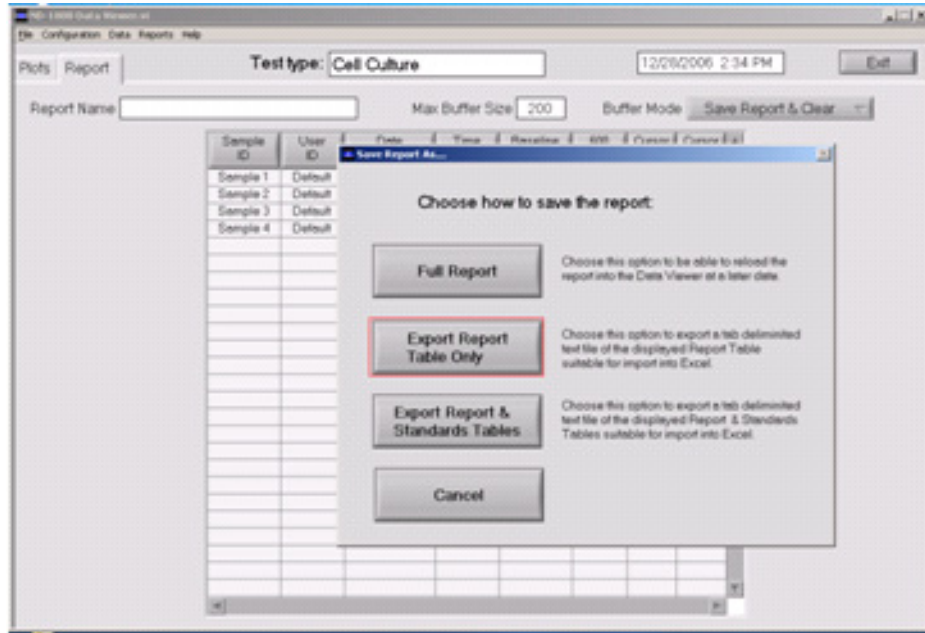

Figure 43 Save Report Software Dialog Box on the NanoDrop® ND-1000 Spectrophotometer.
- c. Click the **Export Report Table Only** button to save the file in the desired location (see Figure 43).